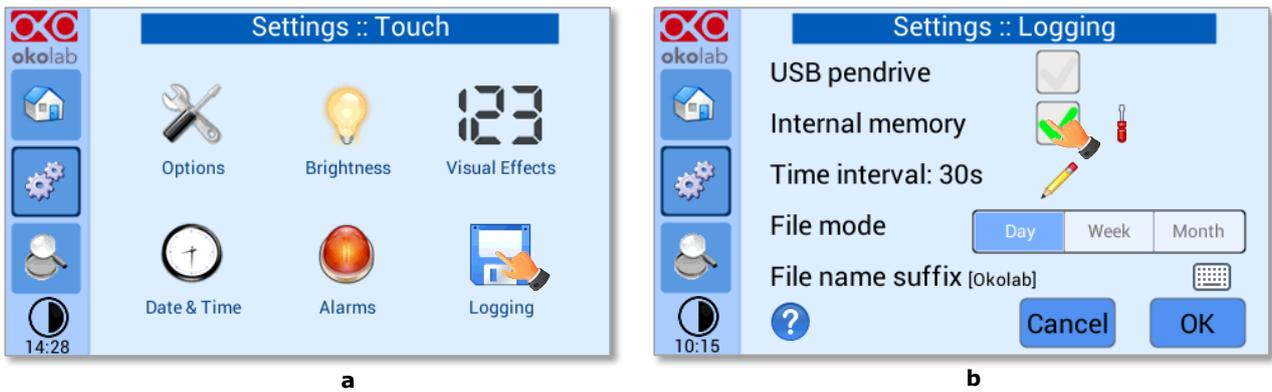

Figure 44. Logging. (a) How to enter in the logging menu; (b) logging in internal memory
2. Press on the *Logging* icon  and flag *Internal memory* in the page that appears, see Figure 44 a and b.